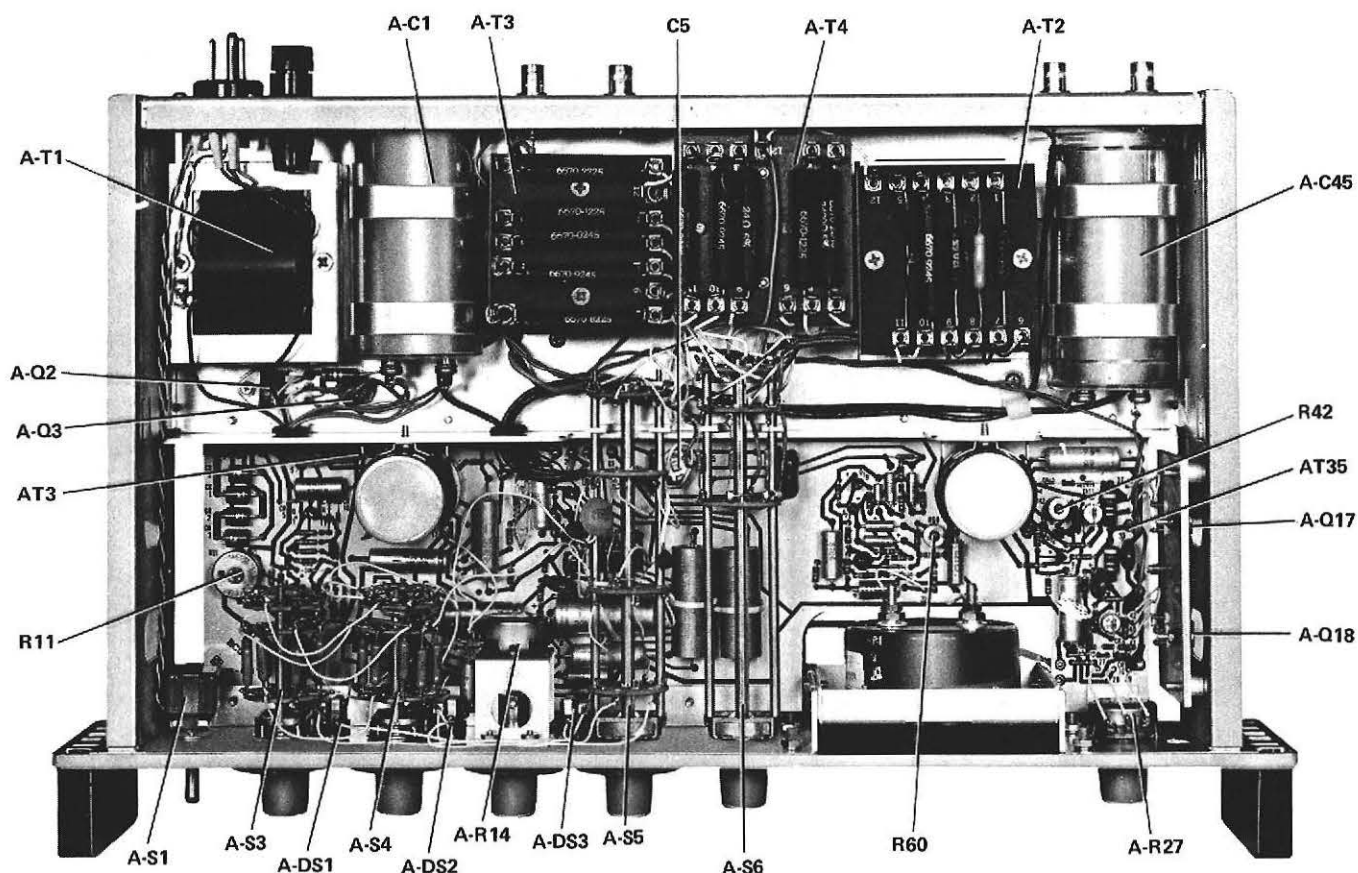

Figure 5-2. Top, interior view.
Figure 5-2 identifies the major components of the oscillator with their corresponding locations.
To adjust the power-supply, B+ voltage, connect the 1807 between TP3 (Figure 5-2) and the chassis for a dc measurement. Use a pair of short clip leads. Adjust R11 for a reading of 20 V.
- c. Connect the oscilloscope probe to AT35 (Figure 5-2).
- f. Adjust R42 (Figure 5-2) to eliminate the aberrations.
- d. Adjust R60 (Figure 5-2) so that the panel-meter indication is the same as that of the 1808  $\pm 1\%$ .